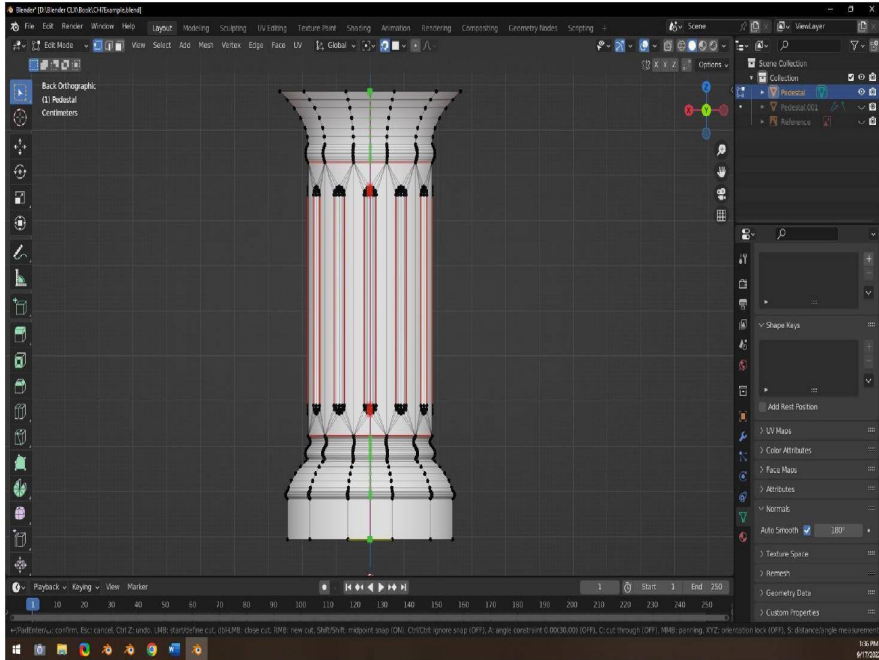

Figure 7.14: Boundary loops of the body of the Pedestal's main column selected and Sharp markings hidden
8. In the **Vertex Select Mode**, with the whole cylinder visible as shown in *Figure 7.14*, press the **K** key to activate the **Knife tool**, then press and hold **Shift** to activate Midpoint Snap, click the top-most edge of the column, then with **Shift** still depressed, click the bottom-most edge and press **Enter** to confirm,
so that a new edge is cut along the body of the column as shown in *Figure 7.14*: